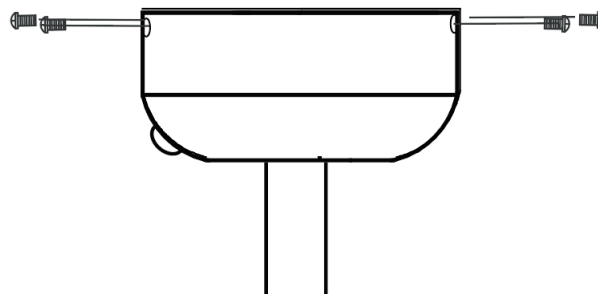

Fig.12
- Cover the mounting bracket with the canopy. Ensure all electrical wiring is tucked inside the canopy and that the wires are not damaged during this step. Secure the canopy to the hanger bracket using the screws provided. (Fig. 12 )